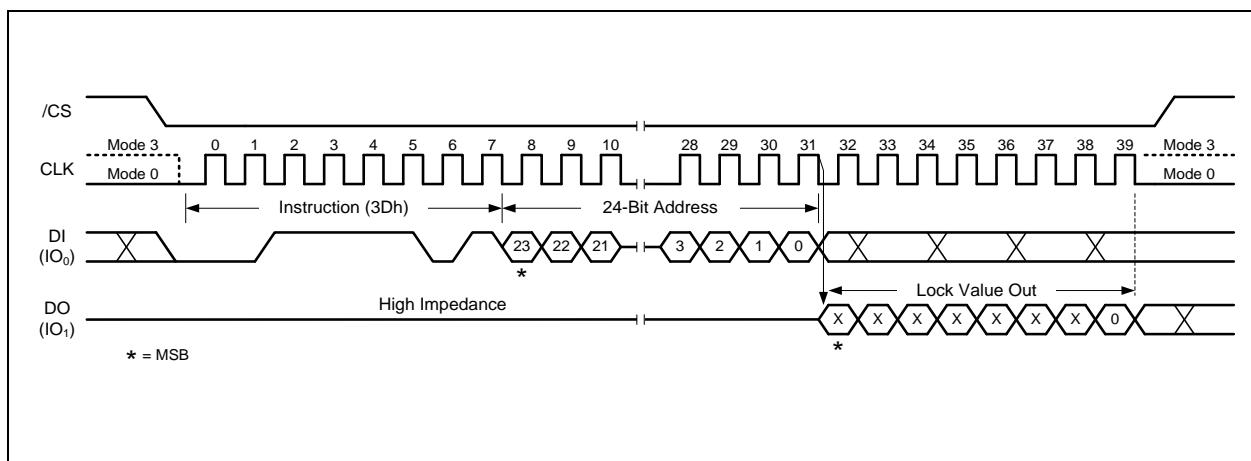

Figure 54. Read Block Lock Instruction
To read out the lock bit value of a specific block or sector as illustrated in Figure 54, a Read Block/Sector Lock instruction must be issued by driving /CS low, shifting the instruction code “3Dh” into the Data Input (DI) pin on the rising edge of CLK, followed by a 24/32-bit address. The Block/Sector Lock bit value will be shifted out on the DO pin at the falling edge of CLK with most significant bit (MSB) first. If the least significant bit (LSB) is 1, the corresponding block/sector is locked; if LSB=0, the corresponding block/sector is unlocked, Erase/Program operation can be performed.